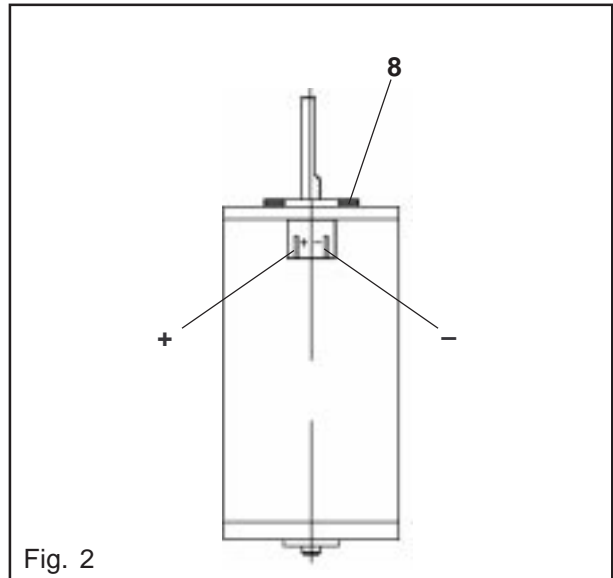

Fig. 2
Make sure not to lose the spacer ring (8). (Fig. 2)